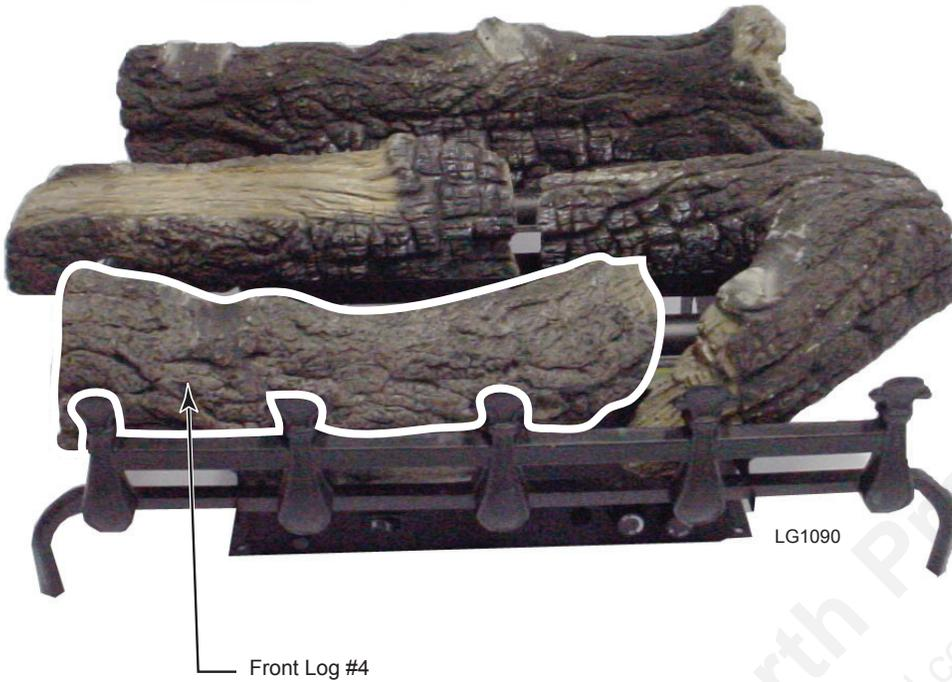

Figure 23
4. Place Front Log (#4) in between burner and grate so that notched areas fit between grate supports. *Figure 23*